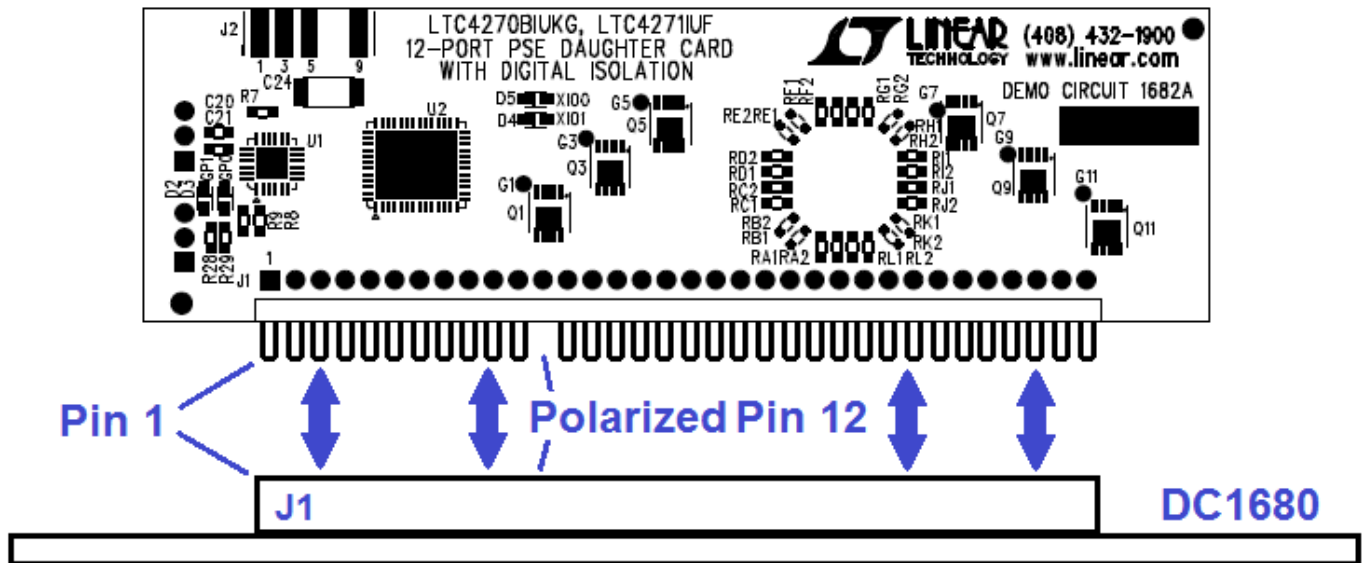

Figure 2. Inserting the DC1682 into J1 of the DC1680
3. Align pin 1 of the 34-pin male connector on the DC1682 with pin 1 of the 34-pin female connector on the DC1680 (Figure 2). Pin 12 is polarized to assist with the alignment. Carefully push the DC1682 straight down until the two 34-pin connectors are flush with each other.